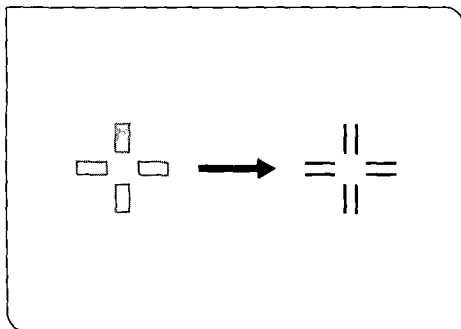

Fig. 108
(Figs. 108, 109)
3. Looking through the finder eyepiece, adjust the diopter ring so that the double cross lines can be clearly observed as two distinctly separated lines. (Fig. 108)